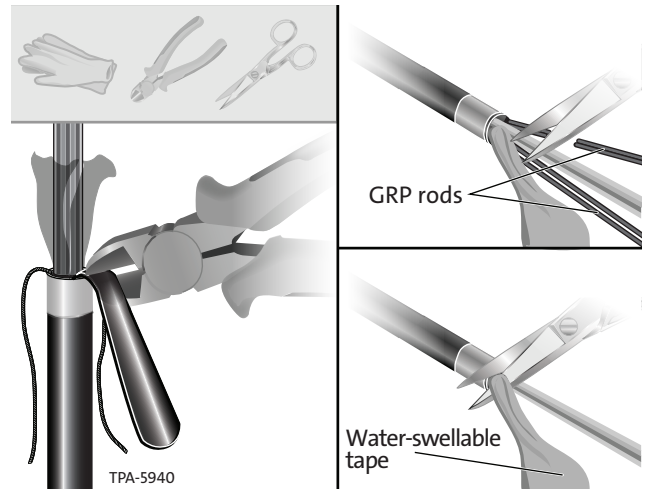

Figure 18
Step 8: After jacket is bent back, cut off the jacket and GRP rods (Figure 18). Then remove water-blocking tape with scissors.